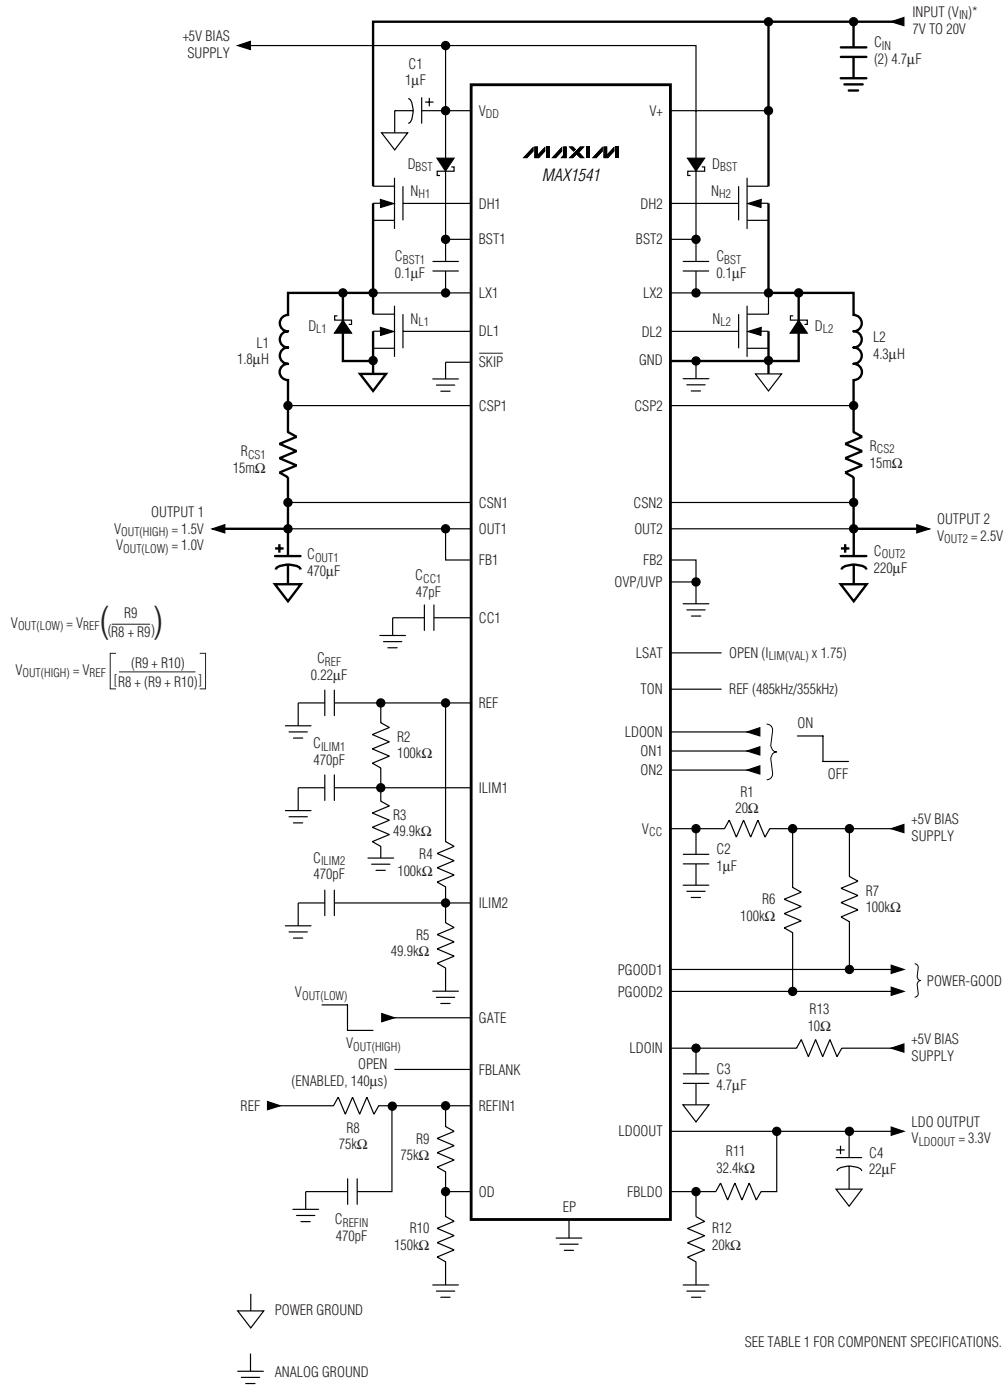

Figure 12. MAX1541 Standard Application Circuit
The MAX1541 regulates FB1 to the voltage set at REFIN1. By changing the voltage at REFIN1, the MAX1541 can be used in applications that require dynamic output-voltage changes between two set points. Figure 12 shows a dynamically adjustable resistive voltage-divider network at REFIN1. Using the GATE signal and open-drain output (OD), a resistor can be switched in and out of the REFIN1 resistor-divider, changing the voltage at REFIN1. A logic high on GATE turns on the internal N-channel MOSFET, forcing OD to a low-impedance state. A logic low on GATE disables the N-channel MOSFET, so OD is high impedance. The two output voltages ($FB1 = OUT1$) are determined by the following equations:
voltage during dynamic transitions. With the additional capacitance, the REFIN1 voltage slews between the two set points with a time constant given by $R_{EQ} \times C_{REFIN1}$, where R_{EQ} is the equivalent parallel resistance seen by the slew capacitor. Looking at Figure 12, the time constant for a positive REFIN1 voltage transition is:
For the MAX1541, the linear regulator supports Dual Mode operation to allow the selection of a 5V output voltage without requiring external components (Figure 1). Connect FBLDO to GND for a fixed 5.0V output. The linear regulator's output voltage can be adjusted from 1.25V to 5.5V using a resistive voltage-divider (Figure 12). The MAX1541 regulates FBLDO to a 1.25V feedback voltage. The adjusted output voltage is: